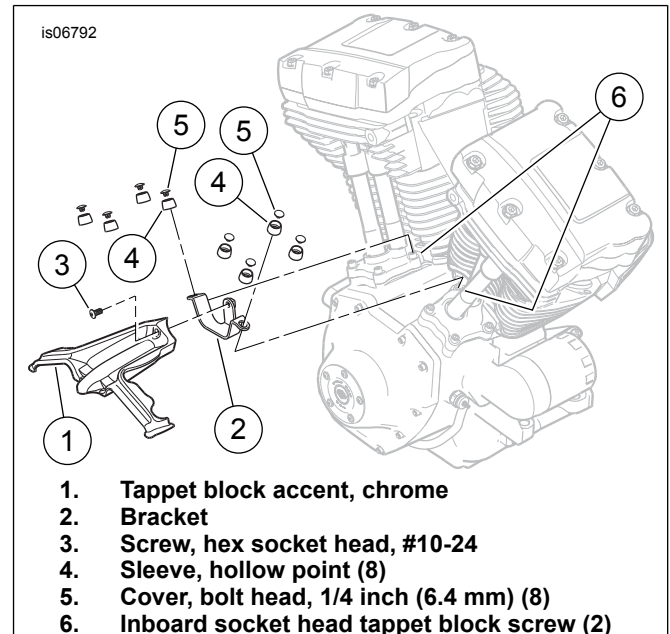

Figure 1. Twin Cam Tappet Block Accent Installation
1. See Figure 1. Remove the two inboard socket head lifter cover (tappet block) screws (6) and set aside.
2. Position the bracket (2) in the area between the engine cylinders as shown, aligning the two slots in the bracket with the threaded holes in the lifter cover. Loosely install the screws (6) through the slots and into the lifter cover.
5. On the underside of the chrome accent (1), use a fingernail to rub the liners of the adhesive backing to activate the adhesive. Peel all the liners from the adhesive backing of the chrome accent.
6. Carefully position the accent to the crankcase and lifter cover, and insert the #10-24 screw (3) through the accent and into the threaded hole in the bracket. Do not fully tighten.
9. Tighten the two inboard socket head tappet block screws (6) to 10.2–13.6 N·m (90–120 **in-lbs**).
10. Push a hollow point sleeve (4) fully down over the head of each of the eight tappet block screws. Push a decorative bolt head cover (5) into the hex socket of each screw.